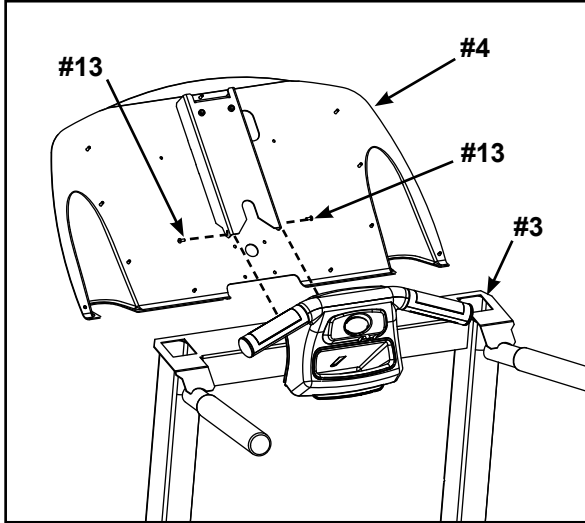

Figure 5
B. Place the console back (#4) in the correct position on the upright assembly (#3). See Figure 5.
C. Using a Phillips screwdriver install two screws 8-32 x .38" (#13) to hold the console back (#4) in place. Do not fully tighten at this time. See Figure 5.